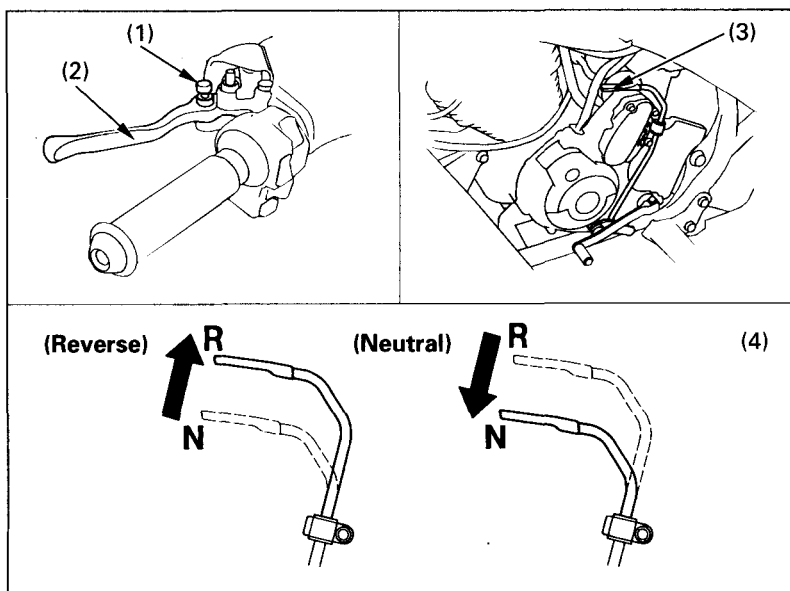

Fig. 2-13 (1) Reverse selector knob
The reverse selector knob (Fig. 2-13) (1) is near the clutch lever (2). The reverse lever (Fig. 2-13) (3) is above the left footpeg.